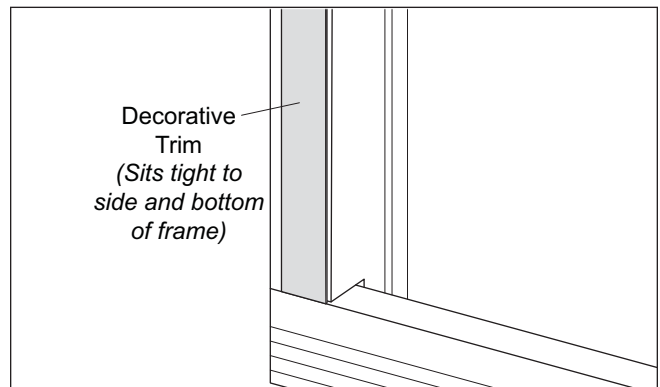

Figure 4. Decorative Trim / Frame Assembly
4. Adhere the decorative trim panels to the side brackets so that they are tight to the side and bottom of the frame (See Figure 4).